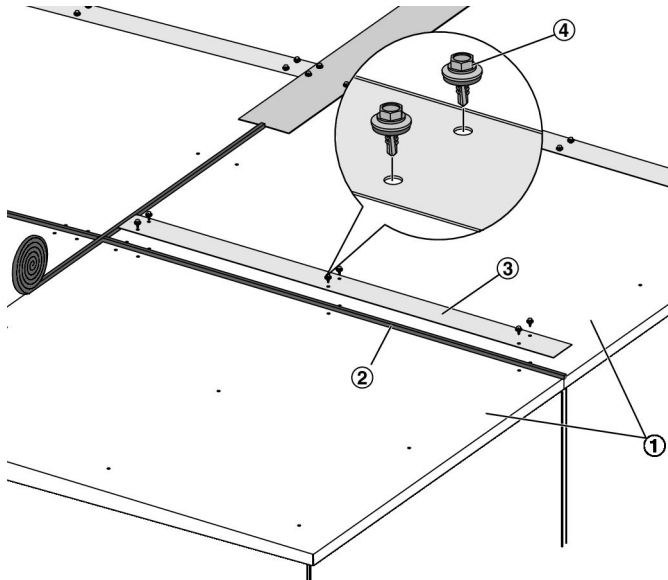

Fig. 16: Joining roof segments
1. ▶ Seal all joints between the roof segments (Fig. 16 /1) with self-adhesive joint sealing tape (Fig. 16 /2). Follow the tape manufacturer's instructions for use. Attach the cover strips (Fig. 16 /3) and fix them with self-drilling screws (Fig. 16 /4).